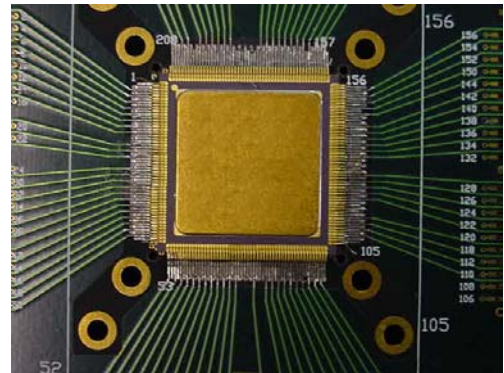

Figure 2 • CQ Package Soldered on PCB
2. **Soldering.** Solder CQ package on the PCB by hand soldering or reflow (Figure 2). Reflow profiles must be optimized based on customer requirements.